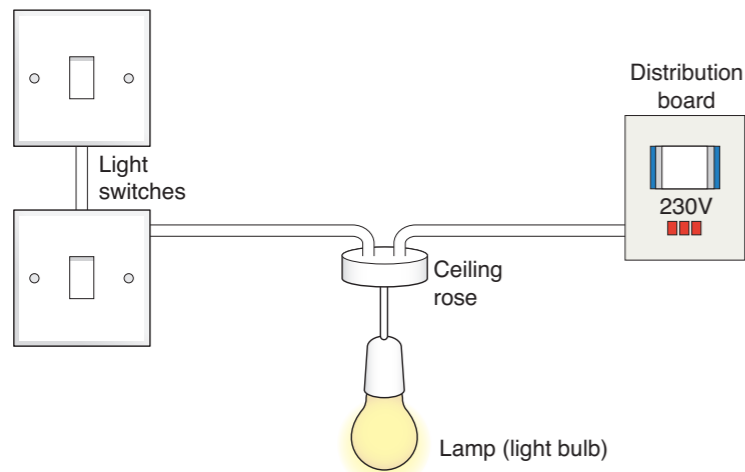

Figure 2.29 Sketch of a two-way lighting circuit
A sketch of a two-way electrical lighting circuit is shown in Figure 2.29. Answer the following questions.
1. Produce a circuit diagram for the two-way lighting circuit shown in Figure 2.29. Research the symbols used for electrical drawings and identify the sources of information used in this task (websites, books, etc.).